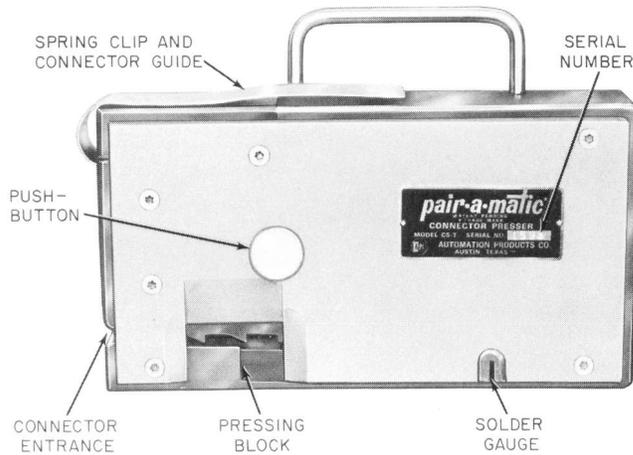

Fig. 12—CS-7 PAIR-A-MATIC Connector Presser—Front View
5.02 The Model CS-7 PAIR-A-MATIC connector presser (Fig. 12 and 13) is a pneumatically powered push-button operated tool, used to feed and press pairs of taped B wire connectors.